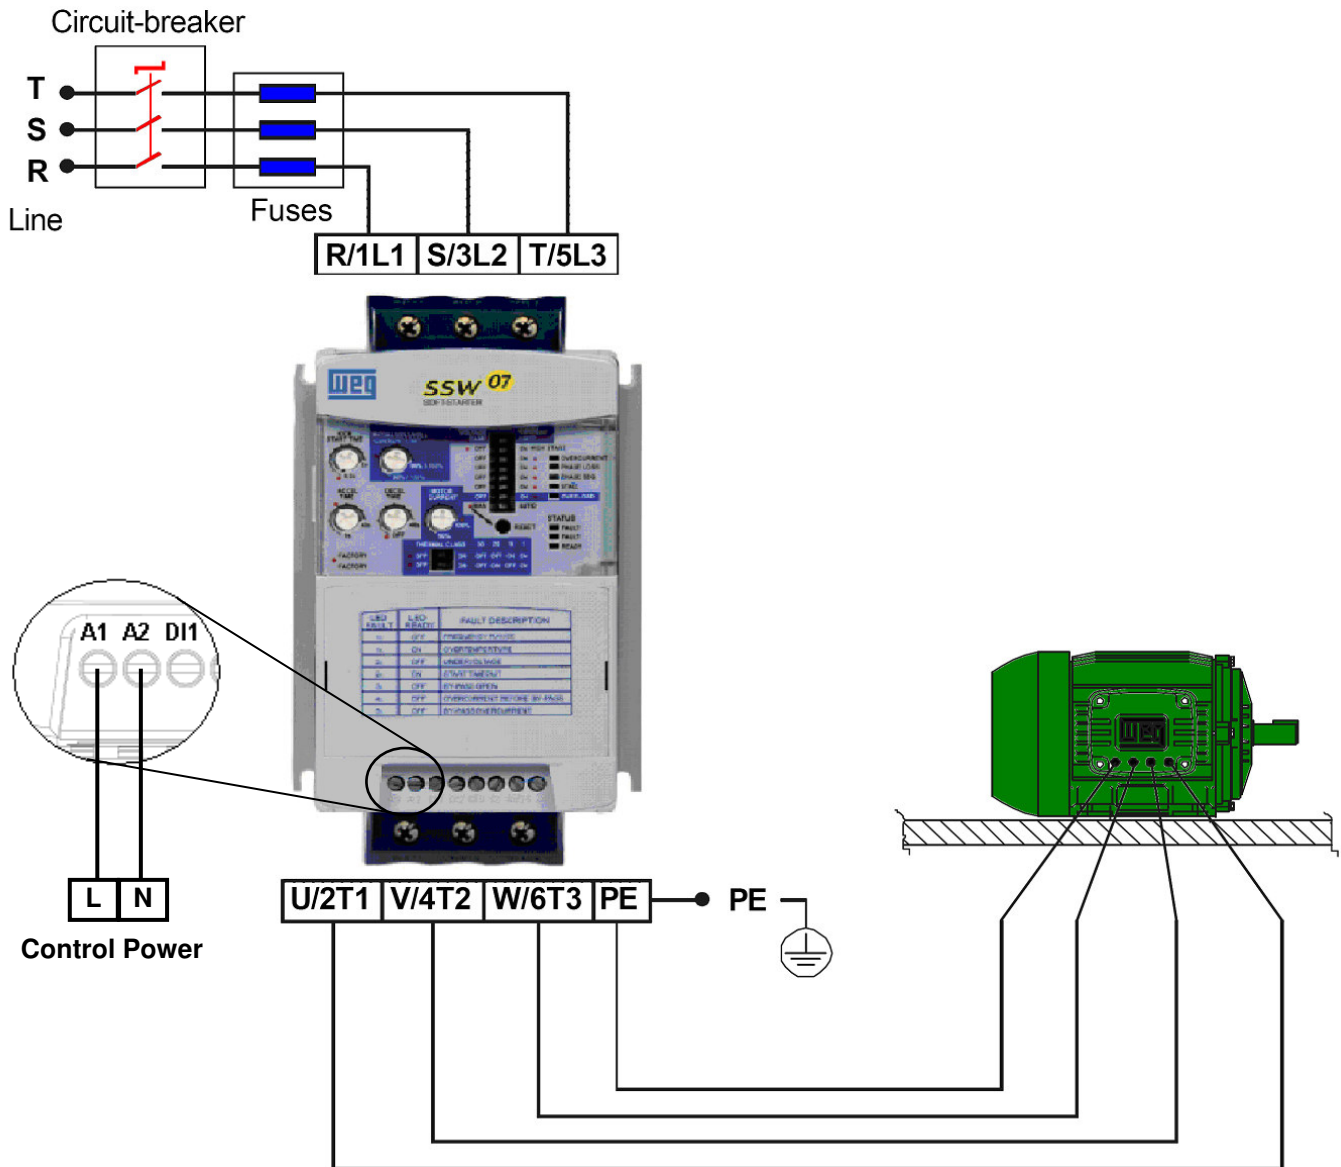

Figure 1 - Power and Grounding Connections
2. Connect the three-phase incoming power leads to the R, S, and T connections on the power terminal (refer to Figure 1). Connect the motor leads to the U, V, and W connections on the power terminal and connect the GROUND lead to PE on the chassis (refer to Figure 1). **Note:** Only three-phase AC motors can be used.
3. Connect the control power line (L) and neutral (N) leads to the A1 and A2 connectors (refer to Figure 1).